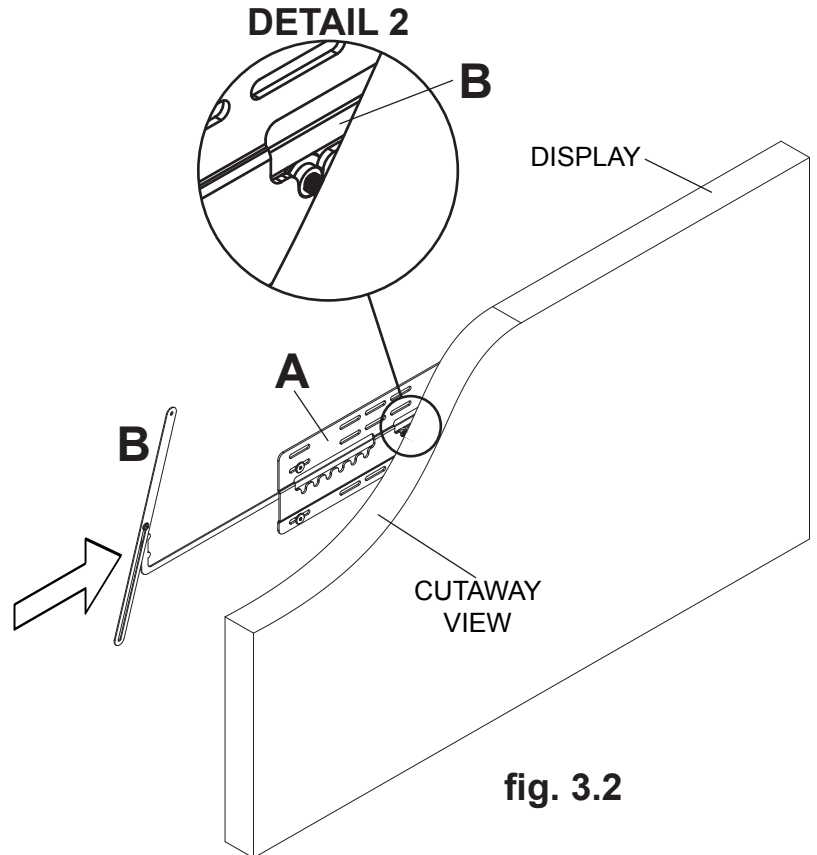

fig. 3.2
- Secure display by inserting lock arm (**B**) into wall plate (**A**) as shown in figure 3.2.